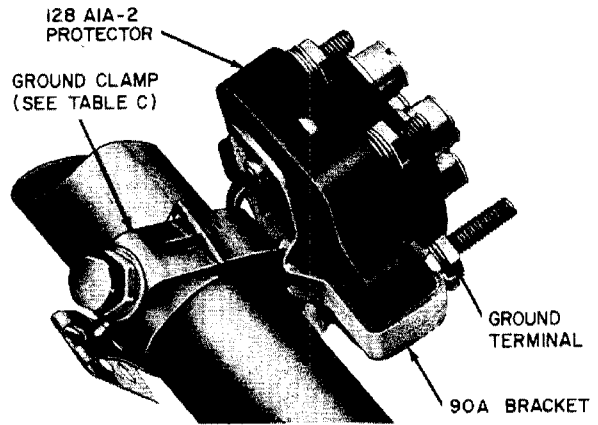

Fig. 6—128A1A-2 Protector Installed on a Metallic Water Pipe
4.05 The 90A Bracket is installed on the 128A1A-2 Protector as outlined in 4.02. Fig. 6 illustrates a 128A1A-2 Protector installed on a metallic cold water pipe using a 90A Bracket.